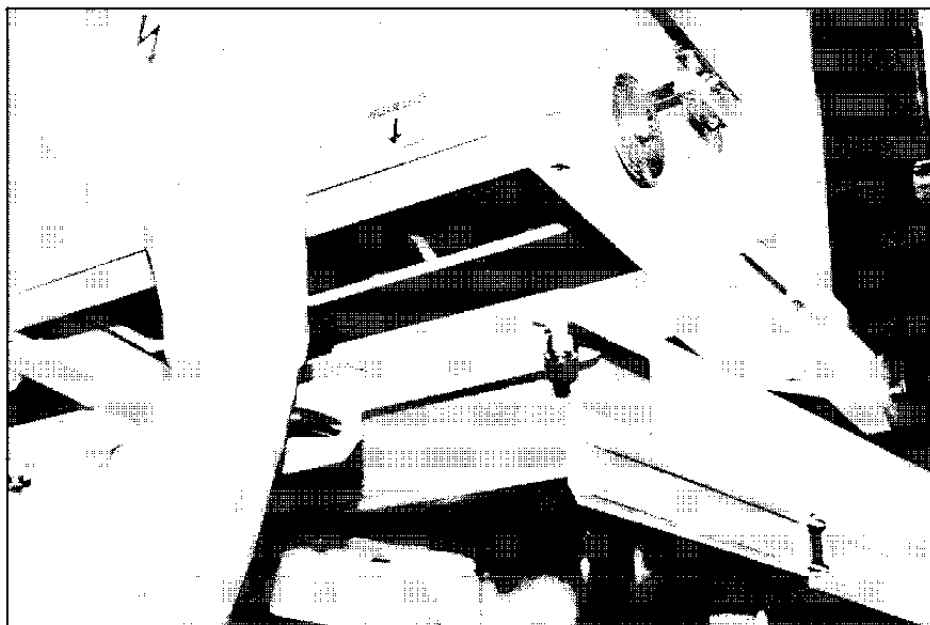

Fig. 47 Placing The Contactor On The Service Drawer
- 2) Lift and place the contactor carriage on the service drawer (Fig. 47). The front of the carriage should line up with the front of the drawer, and the four locator pins on top of the drawer should engage the holes in the bottom of the carriage. Installation of contactor carriages in the upper compartments of two- and three-high stacking arrangements require the use of a Toshiba JK lifting device.